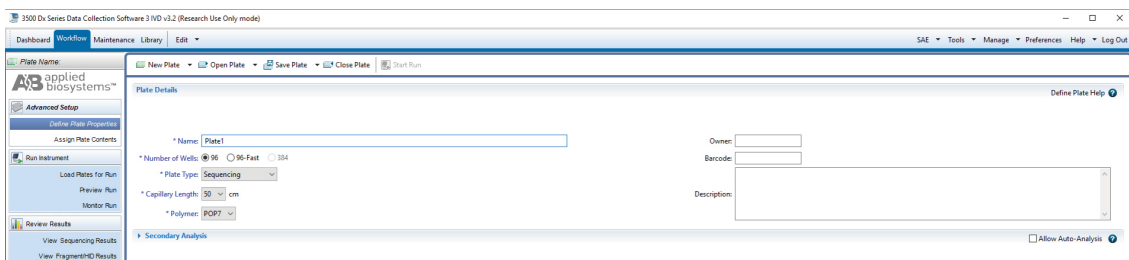

Figure 25. Defining plate properties.
- b. Assign a descriptive plate name. Select the plate type **Sequencing** from the drop-down menu (Figure 25).